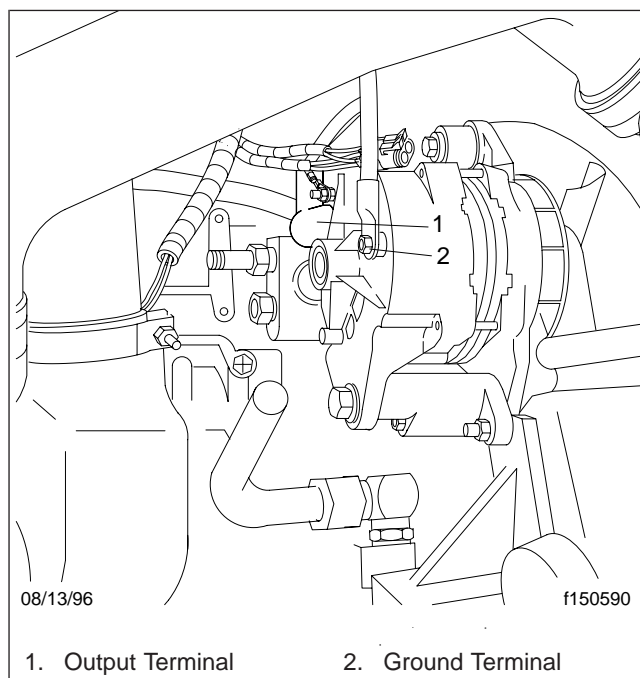

Fig. 1, Electrical Connectors
2. Mark all electrical leads and disconnect them from the alternator. See Fig. 1.